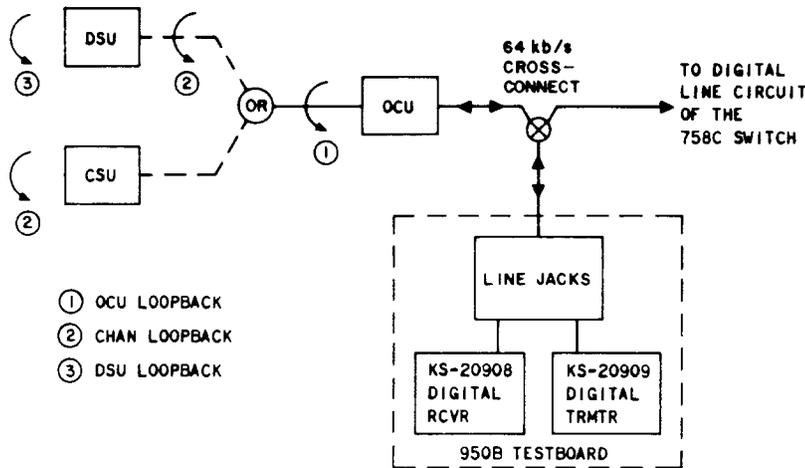

Fig. 1—Local Channel Loopback Tests From Line Jacks
A. DSU Loopback Test: This test checks the ability of a 501A-type data service unit (DSU) to loop back a channel at the customer interface from the line jacks (Fig. 1) or from a test trunk (Fig. 2). A 15-second block error run is performed for maintenance tests and a 15-minute block error run is performed for installation tests. Assistance at the station *is not* required. Detail location of the loopback point in a 501A-type DSU is shown in Fig. 3A.
B. CHAN Loopback Test: This test checks the ability of a 501A-type DSU to loop back a channel at the DSU local channel interface or a 550A-type channel service unit (CSU) to loop back a channel at the customer interface from the line jacks (Fig. 1) or from a test trunk (Fig. 2). A 15-second block error run is performed for maintenance tests and a 15-minute block error run is performed for installation tests. Assistance at the station *is not* required. Detail location
C. OCU Loopback Test: This test checks the ability of an office channel unit (OCU) to loop back a channel at the OCU local channel interface from the line jacks (Fig. 1) or from a test trunk (Fig. 2). A 15-second block error run is performed for maintenance tests and a 15-minute block error run is performed for